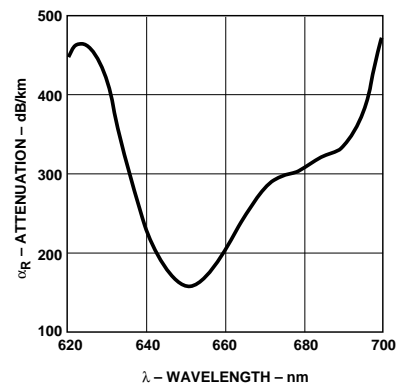

Figure 1. Typical POF Attenuation vs. Wavelength.
7. Note that α_R rises at the rate of about 0.0067 dB/ $^\circ\text{C}$, where the thermal rise refers to the LED temperature changes above 25°C . Please refer to Figure 1 which shows the typical plastic optical fiber attenuation versus wavelength at 25°C .